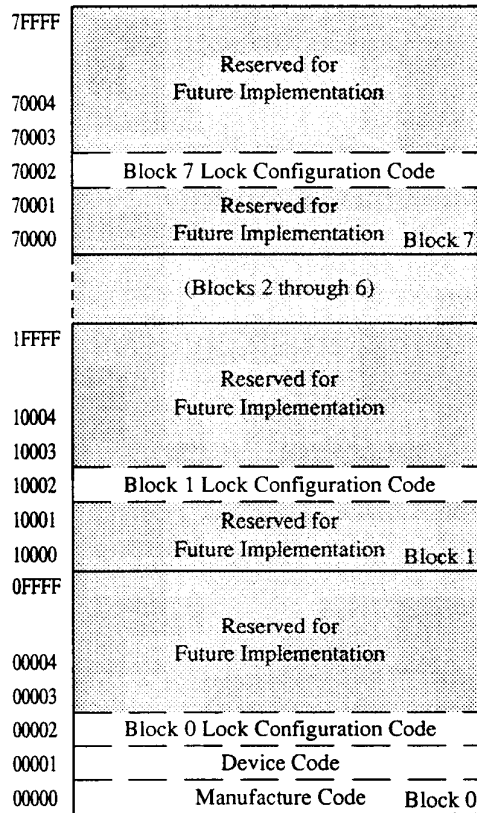

Figure 1. Device Identifier Code Memory Map
The read identifier codes operation outputs the manufacturer code (Block 0), device code (Block 0), and block lock configuration codes (for each block), see Figure 1. Using the manufacturer and device codes, the system CPU can automatically match the device with its proper algorithms. The block lock codes identify locked and unlocked blocks.
IA = Identifier Code Address: see Figure 1.
The host initiates the identifier code operation by writing the Read Identifier Codes command. Following the command write, read cycles from addresses shown in Figure 1 retrieve the manufacturer, device and block lock configuration codes (see Table 3 for identifier code data). To terminate the operation, write another valid command. Although Table 3 lists the device code as A7A7, other Sharp's Flash Memory Card could also have device codes A6A6 or AAAA. Host software should check for all three cases for compatibility with future cards..
1. × selects the specific block lock configuration code to be read. See Figure 1 for the device identifier code memory map.